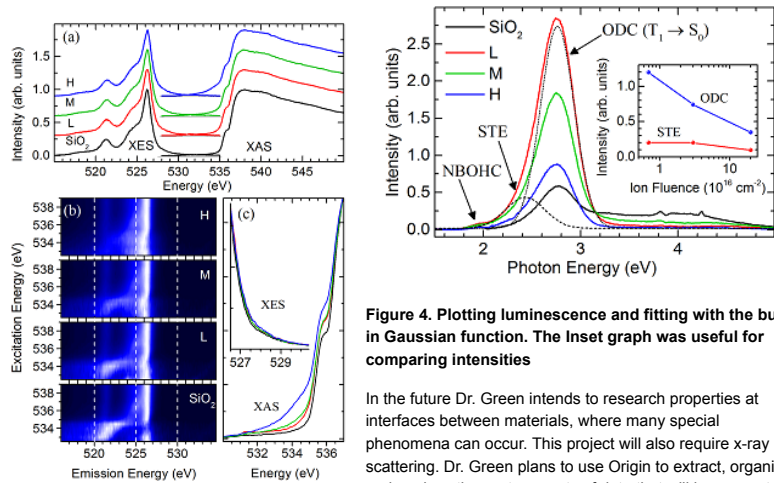

Figure 4. Plotting luminescence and fitting with the built in Gaussian function. The Inset graph was useful for comparing intensities
The change in electronic properties between samples with varying amount of atomic implants, and no implants was compared by creating contour plots. (Figure 3) The first graph shows curves for samples with High (H), Medium (M) and Low (L) doses of Mn and Co, and the black curve represents the control. The graphs depict sample absorption (XAS) and emission (XES). Stacking the plots made it easier to spot the subtle differences between them. In Figure 4 changes in the optical properties of the samples were gauged by plotting luminescence. The peaks were fit with the built-in Gaussian (<http://www.originlab.com/index.aspx?go=Products/Origin/DataAnalysis/PeakAnalysis/PeakFitting>) function to exhibit the various levels of luminescence. The "Add Inset Graph" feature was also useful since Dr. Green could compare intensities of important bands by zooming in on relevant parts of the graph.